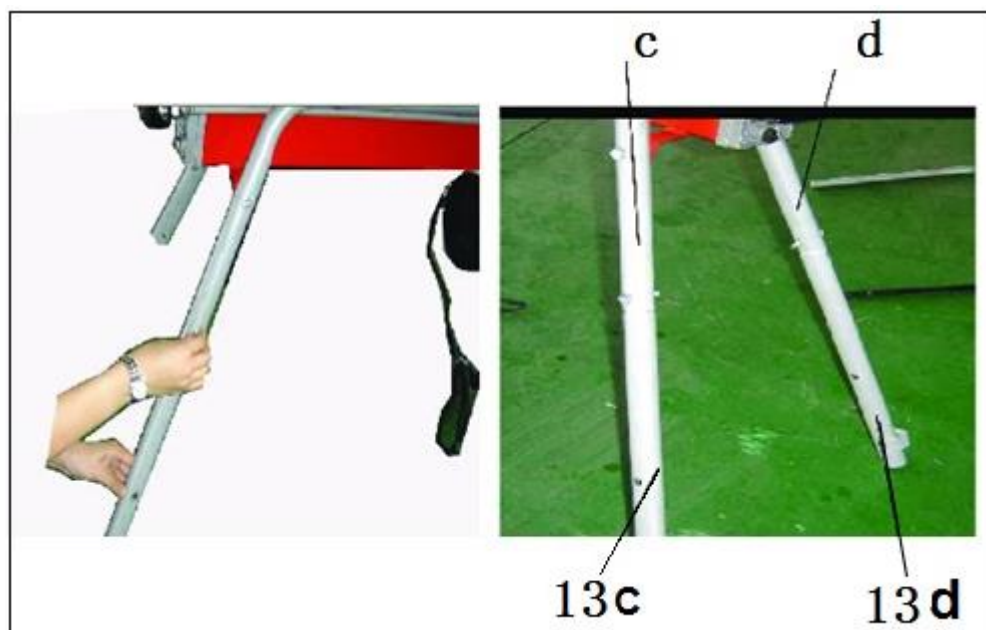

fig.4
- c) Connect back stand (13c) to connection pipe (c) and connect back stand (13d) to connection pipe (d) by bolts and nuts (fig.4).